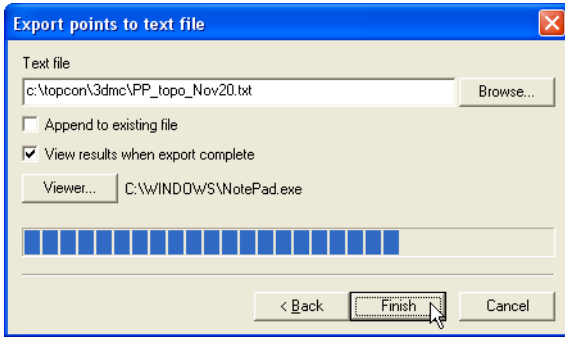

Figure 9-27. Exporting Points to Text File
- Click **Finish** to export the selected points to a text file (Figure 9-27).